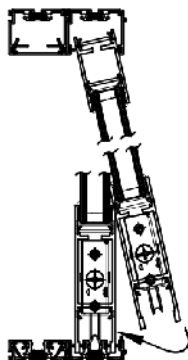
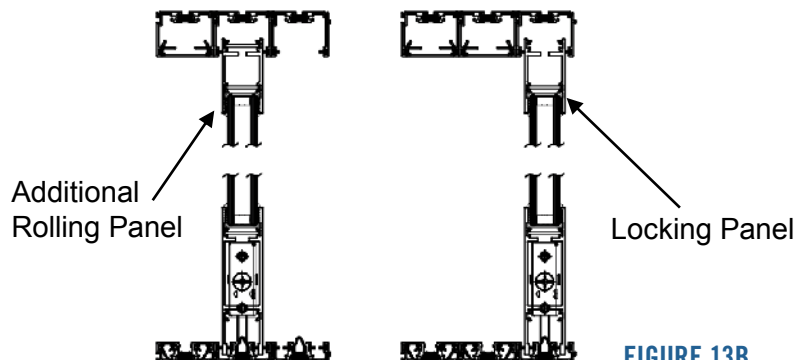

FIGURE 13A
FIGURE 13B
17. Install the sliding panel into the interior frame track. If you have a staggered track door, you will need to temporarily remove the head and sill track end caps (Part #17, #18) to avoid clearance issues. For info on removing and installing staggered track end caps, consult Appendix A. If installing an OXXO door, install both sliding panels on the interior track. If installing an OXX or XXO door, install the locking panel to the interior track and the additional rolling panel in the center track as shown in figures 13a and 13b. Use a putty knife if necessary to lift rollers over the center weather strip track.
18. Temporarily adjust the panel upward by lifting the panel and turning the adjustment screw shown in figure 13a clockwise as shown in figure 13b until the rollers regain contact with the track. It is important to physically lift the panel while adjusting upward so that the adjustment screw does not strip due to the weight of the panel. Adjust the rollers of the active panels by turning the adjustment screw shown in figure 13a to achieve proper alignment of the door panels (it is easier to adjust down than up). Turn screw clockwise to raise the panel and counterclockwise to lower the panel as shown in figure 13b.